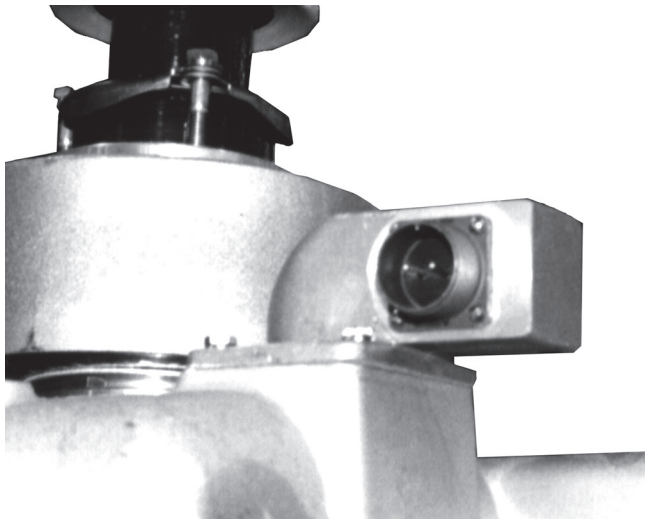
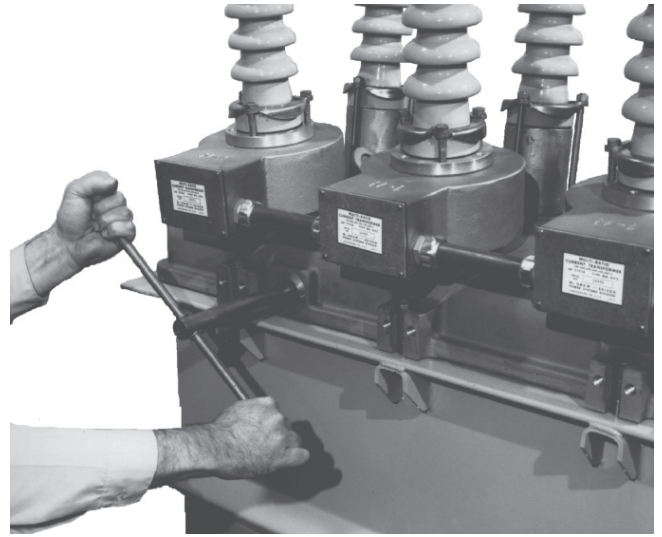
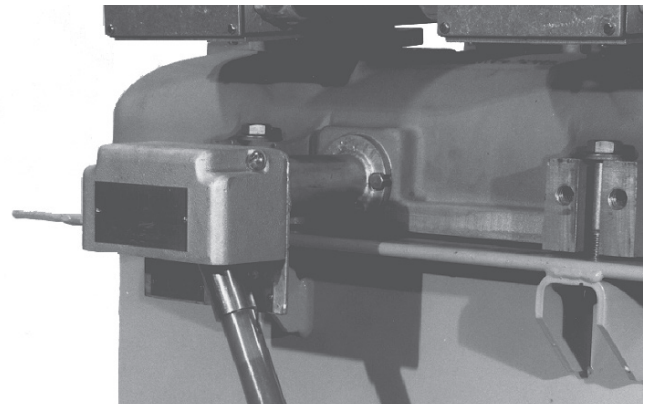

Figure 11. Low-voltage connection fitting on top of recloser.
Figure 14. Using a KA90R manual reclosing tool to operate the recloser.
Figure 15. KA476R manual closing tool.
For reclosers equipped with low-voltage closing, a T-type double-receptacle assembly (Figure 11) is provided on the recloser head: one side is for connecting the electronic control; the other, for making low-voltage connections (polarity independent). No. 12 stranded conductors are recommended. The mating plug includes a weatherproof cable grip for 9/16-5/8-in. OD two-wire cable. Refer to Figure 14 for low-voltage DC closing connection requirements.
A T-handled closing tool, KA90R (Figure 14), is available for closing a de-energized recloser when high-voltage closing power is not available. If the recloser is mounted out of reach of the T-handled tool, the KA476R (Figure 15) manual closing tool can be used.
2. Insert the KA90R T-handled closing tool into the port, and engage the pin on the closing shaft (Figure 14).